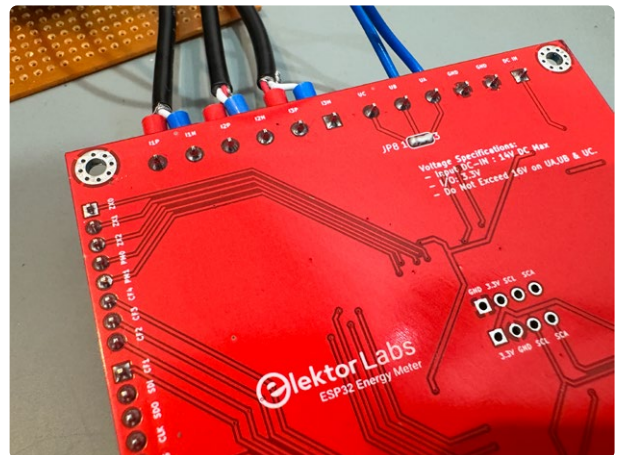

Figure 4: Single-phase jumper configuration on the ESP32 Energy Meter's PCB.
You might have noticed in the images that there is only one transformer attached to the energy meter. As the energy meter was configured to be used in Single Phase mode, by sorting the jumper JP8 on the back side of the PCB, as seen in **Figure 4**. To operate the energy meter in three-phase mode or to sample voltage from each phase in a three-phase system using three step-down transformers, you must connect the primary sides of three transformers to the respective phases (L1, L2, L3). On the secondary side, connect one end of each transformer's winding to a common neutral point, forming a star (Y) configuration. The free ends of the secondary windings (V1, V2, V3) will then provide the voltage outputs (UA, UB and UC) on the PCB for each phase. Key considerations include ensuring the transformers are properly rated for the system's voltage and current, maintaining strict isolation between primary and secondary circuits for safety, and securing a stable and well-balanced neutral connection to prevent measurement inaccuracies.